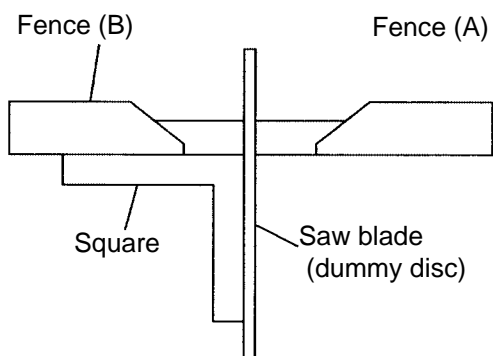

Fig. 73
Squareness between fences (A) and (B) and slide pipes (Place a square against fences (see Fig. 73), slide the head and check for any clearance between the dummy disc and the square.)	0.15/180